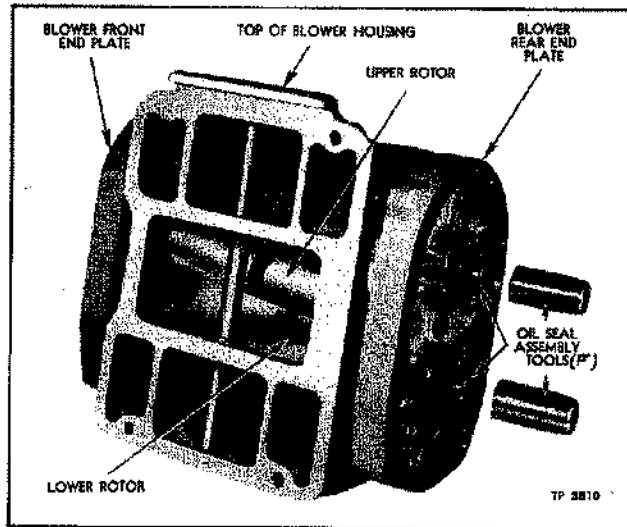

Figure 21—Use of Oil Seal Tools When Installing Rear End Plate
1. If lip type seals are being used, install one oil seal pilot over serrated end of each rotor shaft. (See fig. 21.)